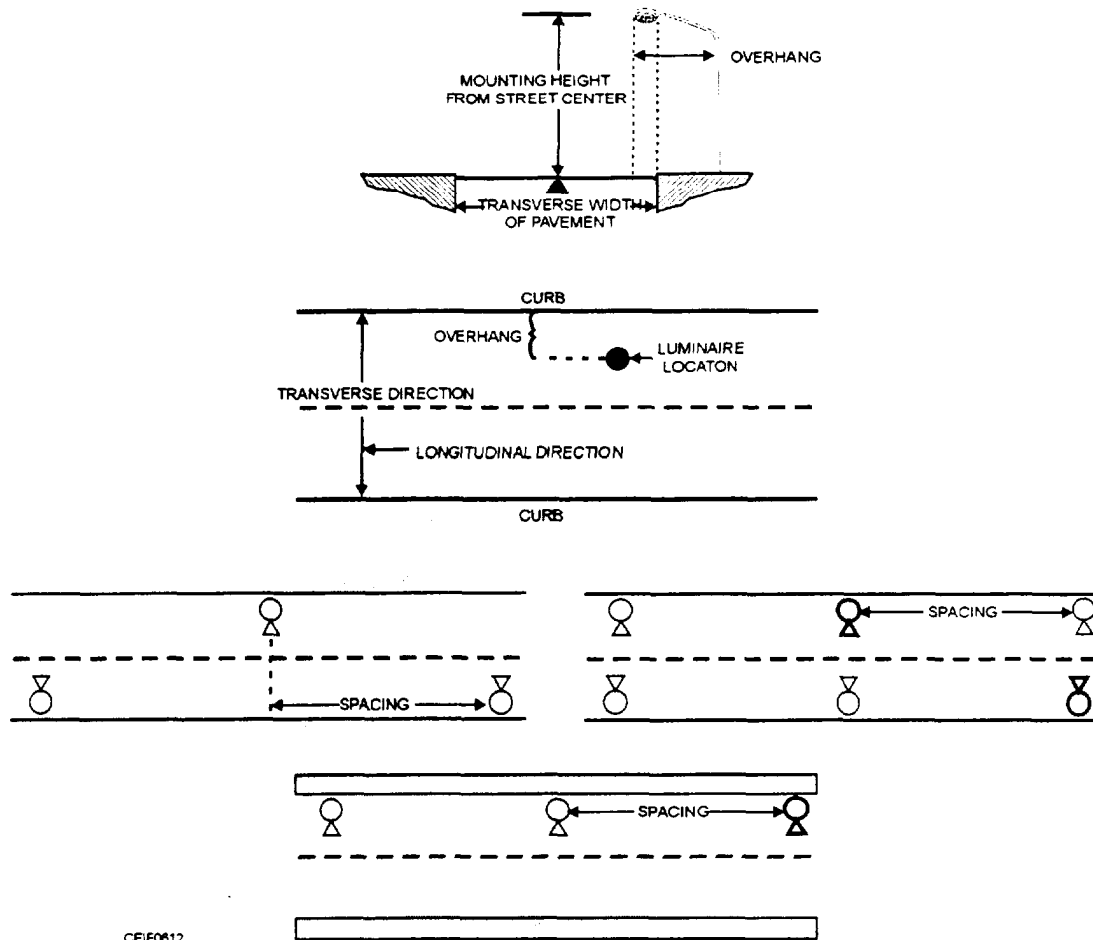

Figure 6-12.—Luminaire arrangement and spacing.
You must be somewhat familiar with the terminology relating to how fixtures are located down a roadway. Figure 6-12 shows these relationships graphically. The following information will be useful when determining the most appropriate mounting arrangements:
- There are three ways that a luminaire may be positioned longitudinally down the roadway (fig. 6-12). Note that the spacing is always the dimension from one fixture to the next down the street regardless of which side of the street the fixture is located.